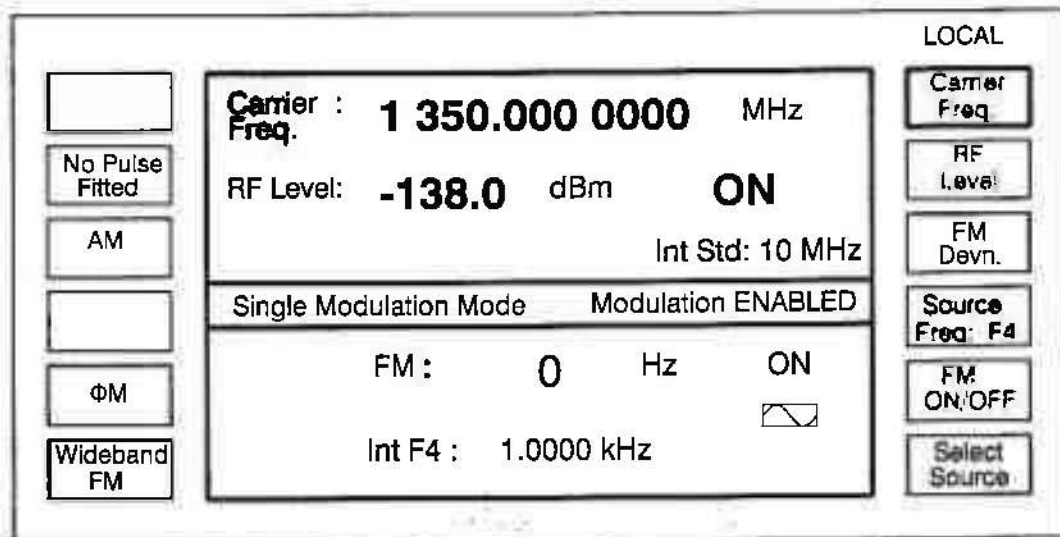
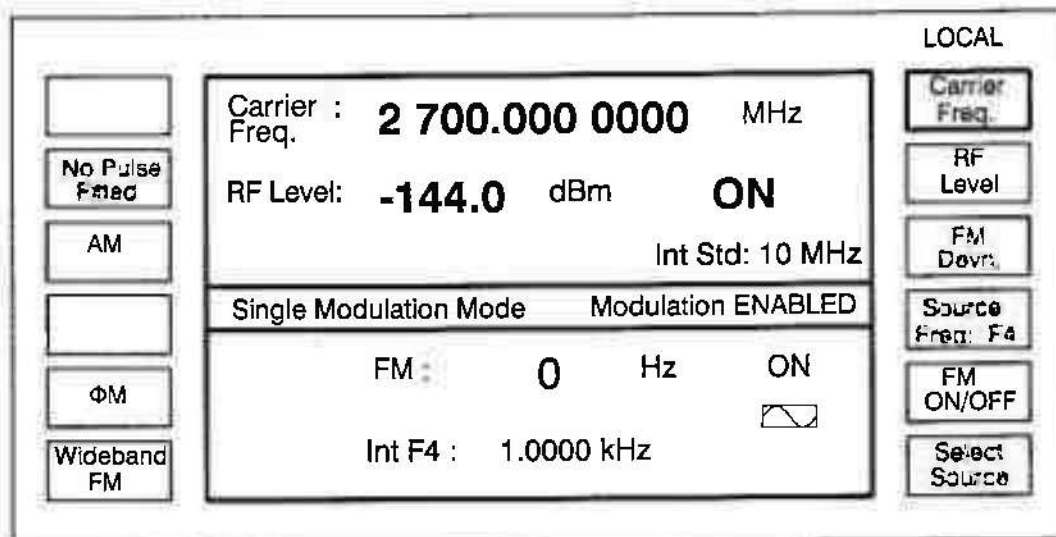

Fig. 3 Main, SIG GEN, menu - default display for 2030
Fig. 4 Main, SIG GEN, menu - default display for 2031
- (2) If the default display shown in Fig. 3 and Fig. 4 is not obtained, a previous user may have set the instrument to switch on with one of the user memories recalled rather than using the default factory settings. Before proceeding any further you should reset this selection, see Para. 65.
- (3) Observe that the main menu appears on the display showing default parameters for FM. The soft key label marked *[Carrier Freq]* is highlighted (i.e. the line bordering the label is increased in thickness to about 1 mm), which means that anything entered at this stage will change the carrier frequency.